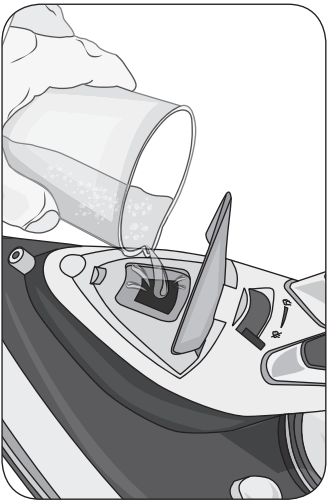

Fig. 5
Open the door (B) by pushing it upwards and, holding the iron horizontally, fill the water tank up to the maximum level using the measuring cup (F) provided (Fig. 5).